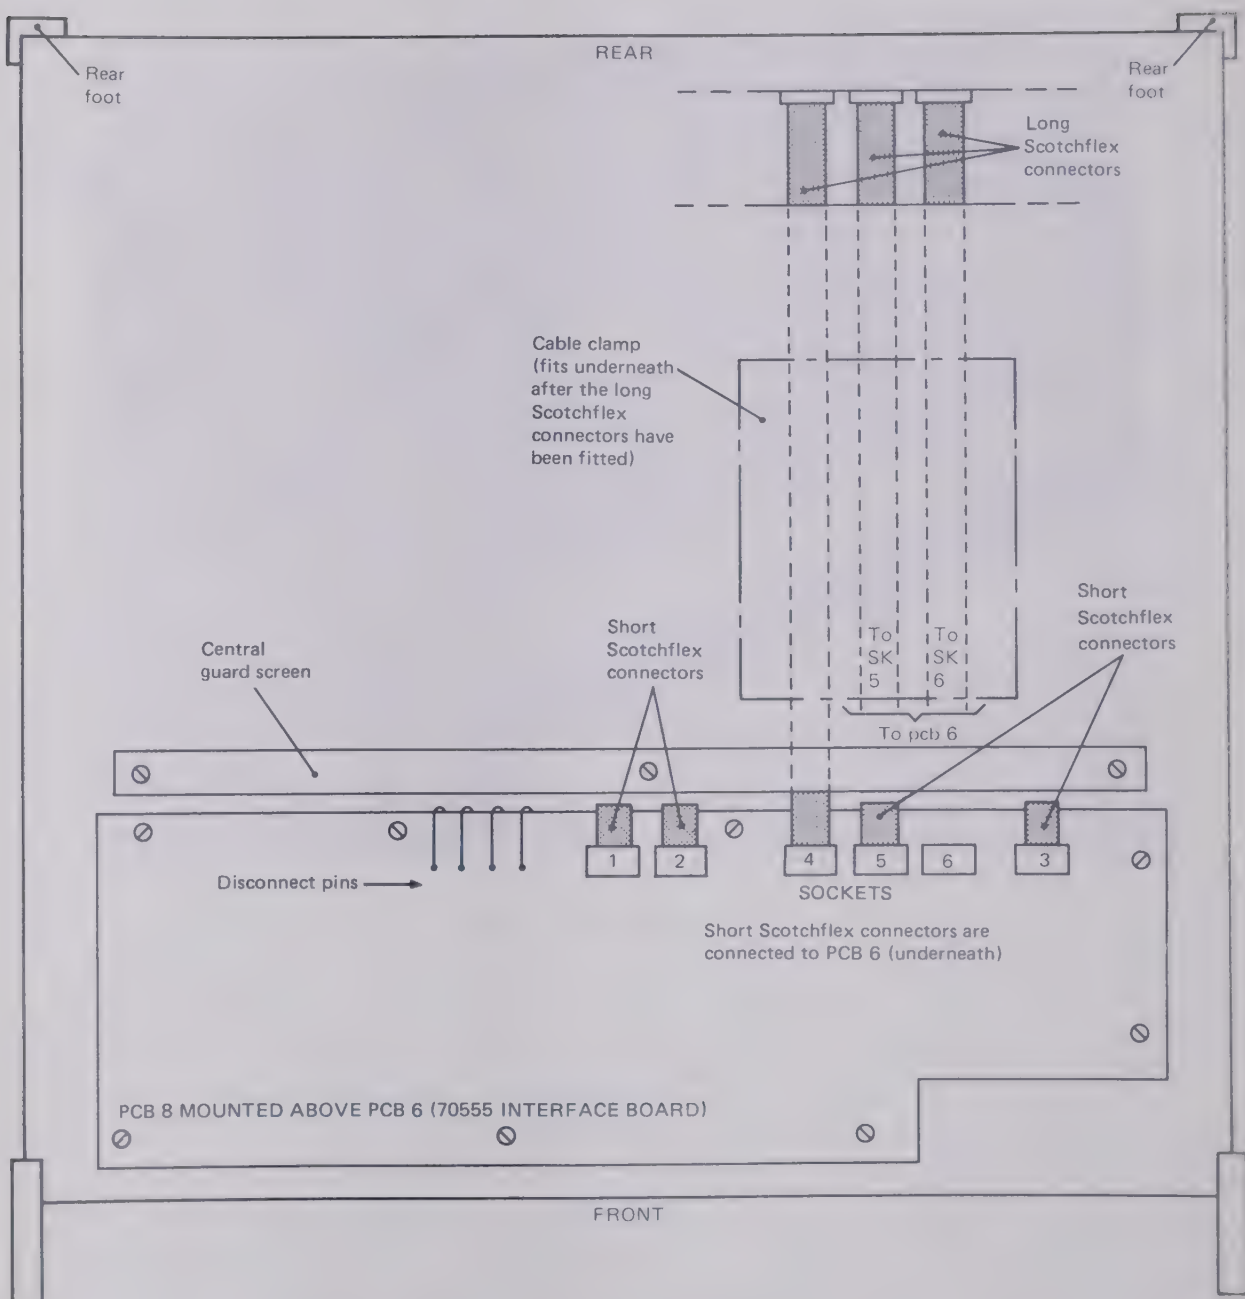

Fig. 6 Simplified plan view of instrument showing interconnections to PCB's 6 and 8
13. See Fig. 6 to verify that the pcb has been connected correctly.